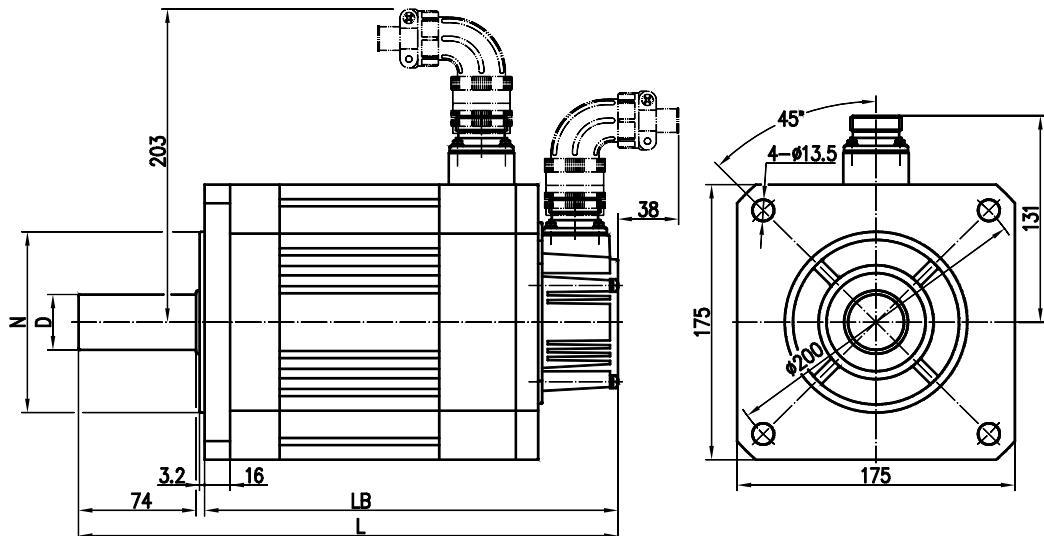

Fig. 6
5.6 Refer to figure 6 and list 12 about **175SJTG** series motor overall installation dimension.